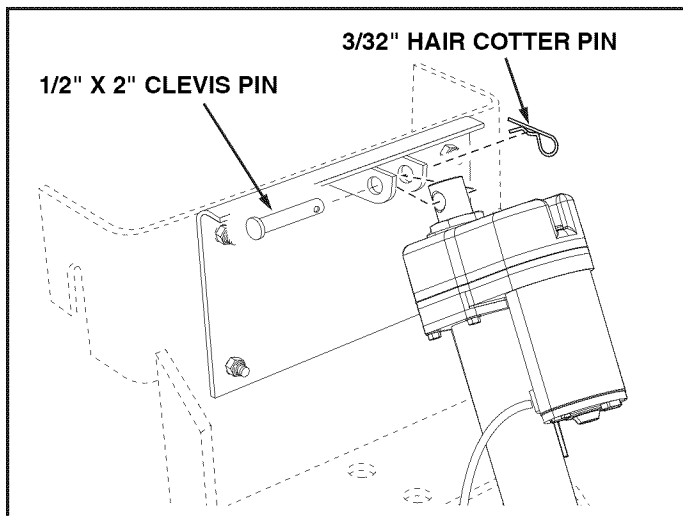

FIGURE 4
- Place the other end of the actuator between the anchor brackets on the mount bracket assembly. Insert the 1/2" x 2" clevis pin through the anchor brackets, securing it with the 3/32" hair cotter pin. See figure 4.